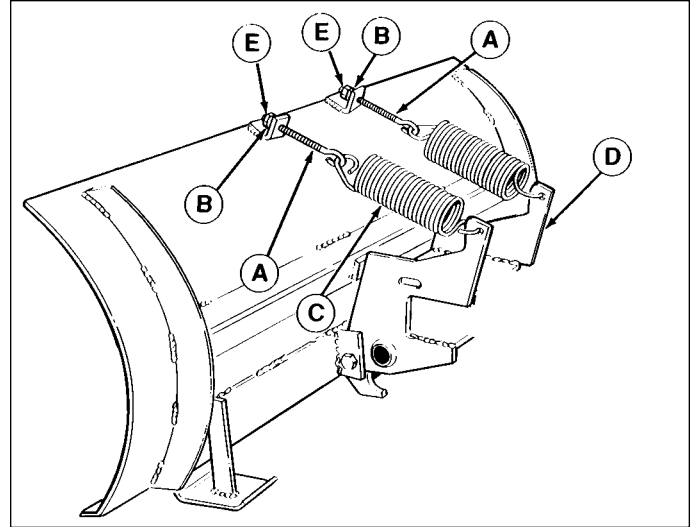

Figure 10. Tension Springs
3. See Figure 10. Insert threaded end of eyebolt (A) through lug on blade, and screw on 5/16 nut (B) just far enough so that it is flush with the end of the eyebolt.
4. Hook the springs (C) into the pivot frame (D). Using a pliers, stretch the springs to hook the opposite ends to the eyebolts (A).
5. Tighten the nut (B) on each eyebolt enough to expose about 3/4" (19 mm) of thread.
6. Holding the first nut (B) with a wrench, add a second nut (E) to each eyebolt, and tighten securely against the first nut to act as a jam nut.